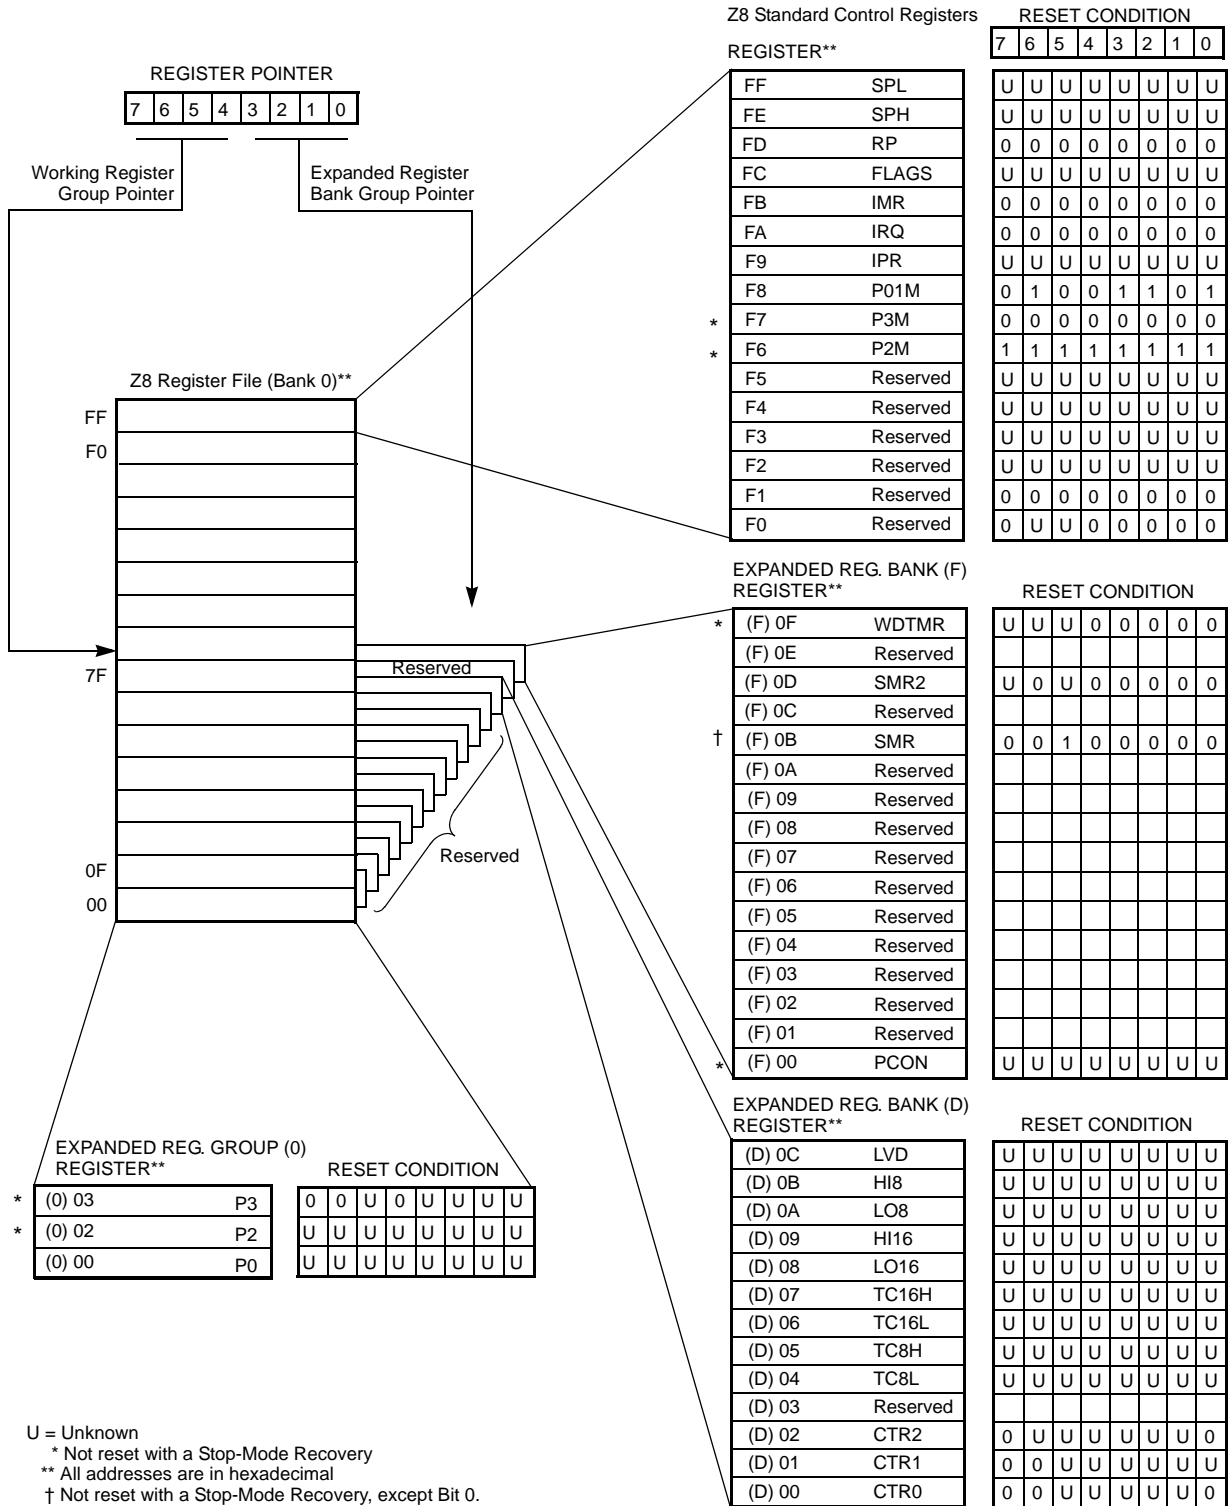
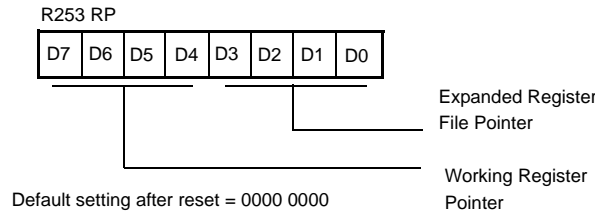

Figure 11. Expanded Register File Architecture
Figure 12. Register Pointer Register
► **Note:** An expanded register bank is also referred to as an expanded register group (see Figure 11).
The upper nibble of the register pointer (Figure 12 on page 21) selects which working register group, of 16 bytes in the register file, is accessed out of the possible 256. The lower nibble selects the expanded register file bank and, in the case of the Z86D86 family, banks 0, F, and D are implemented. A 0h in the lower nibble allows the normal register file (bank 0) to be addressed, but any other value from 1h to Fh exchanges the lower 16 registers to an expanded register bank. For example, for the Z86D86 (see Figure 11):